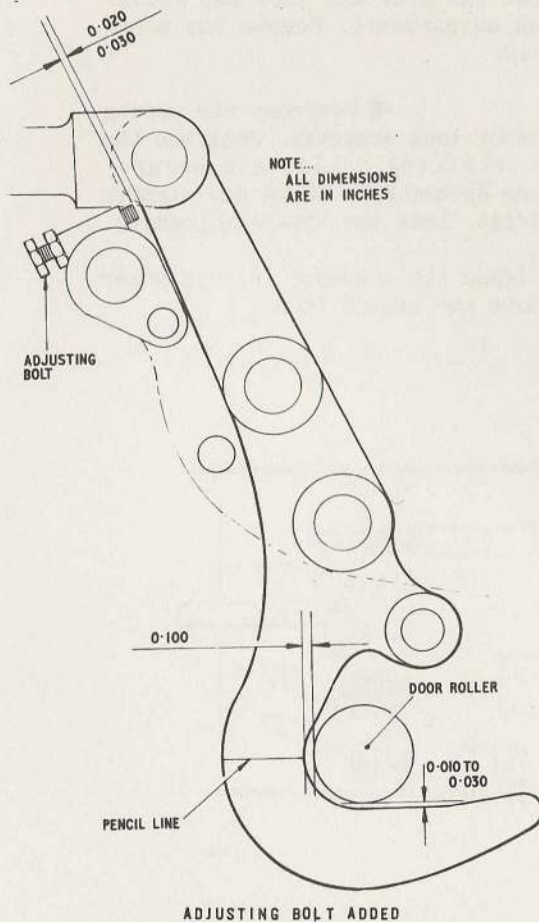

Fig. 7. Wheel-well door latch hook clearances
(10) Adjust the door roller to produce the 0.010 to 0.030 in. clearance (fig. 7) as follows:-
(11) Adjust the latch-hook adjusting bolt (fig.7) to produce the 0.10 in. clearance as follows:-
(a) Scribe a pencil line across the face of the hook (fig.7).
(j) Set the adjusting bolt at the top of the door hook (fig.7) to obtain a clearance of 0.02 to 0.03 in. between the bolt and the hook.